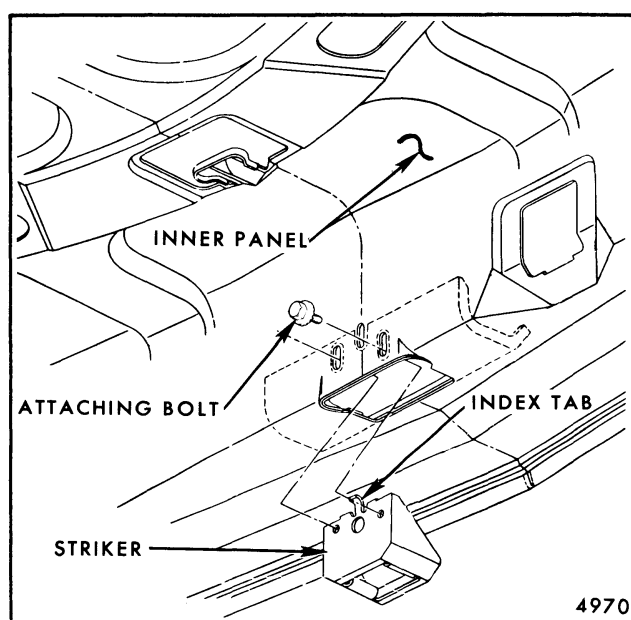

Fig. 7-14-Typical Rear Compartment Lock Striker Mounted in Lid
2. Remove striker attaching screws and remove striker (Figs. 7-14 and 7-15).